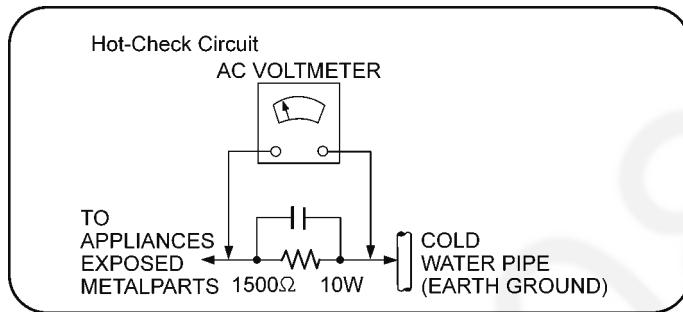

Figure 1-1
2. Connect a $1.5\text{k}\Omega$, 10 watts resistor, in parallel with a $0.15\mu\text{F}$ capacitors, between each exposed metallic part on the set and a good earth ground such as a water pipe, as shown in Figure 1-1.